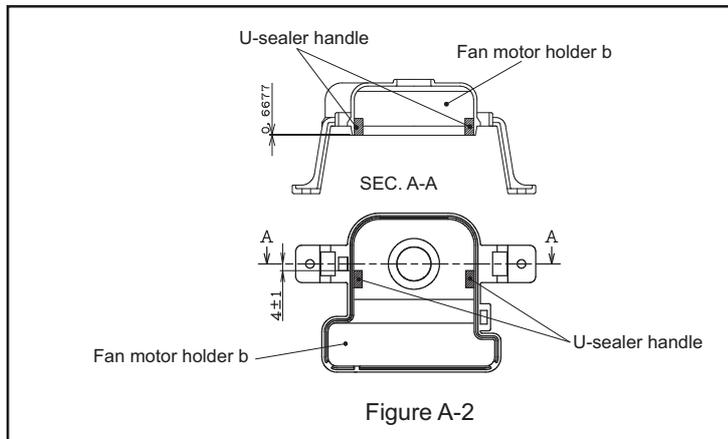

Figure A-2
1. Stick U-sealer handle to Fan motor holder b (Fig. A-2).